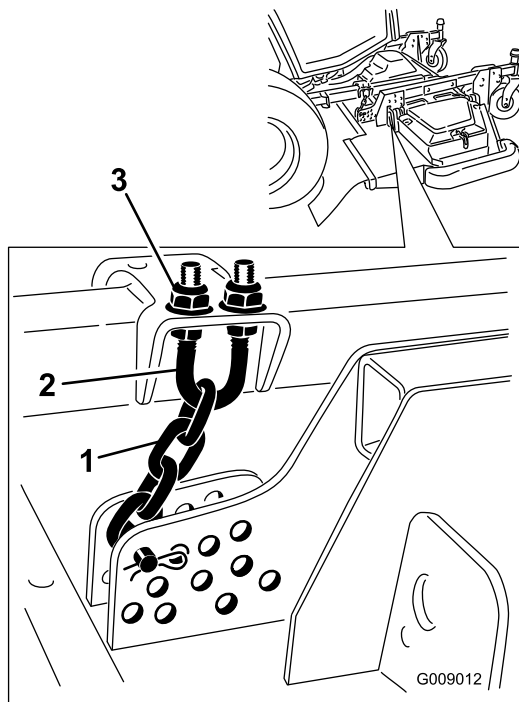

Figure 134
5. Loosen the jam nuts on the top or bottom of the height-of-cut chain U-bolt (Figure 134).